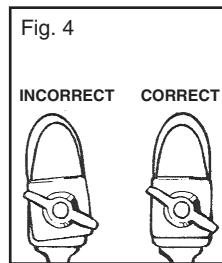

Fig. 4
4. Rotate the handle to move the shaft inwards. Make sure that the fork can safely pass through the coring blade (1). If not, loosen the wing nut (4) and adjust the blade's position until the fork can pass through freely. Re-tighten the wing nut.
5. The peeler arm (7) is pre-adjusted for a distance of approx 1 cm between the peeler blade (2) and outside of the fork. You can adjust the distance with the adjustment screw (6).
6. The peeler blade should always be centred on the peeler arm and protrude approx. 3 mm from the peeler arm. See fig. 4.
7. Pull the peeler arm (7) backwards and push the locking lever (5) forwards to lock the peeler arm in the extended position to ease the positioning of the fruit for peeling or slicing with the skin on.